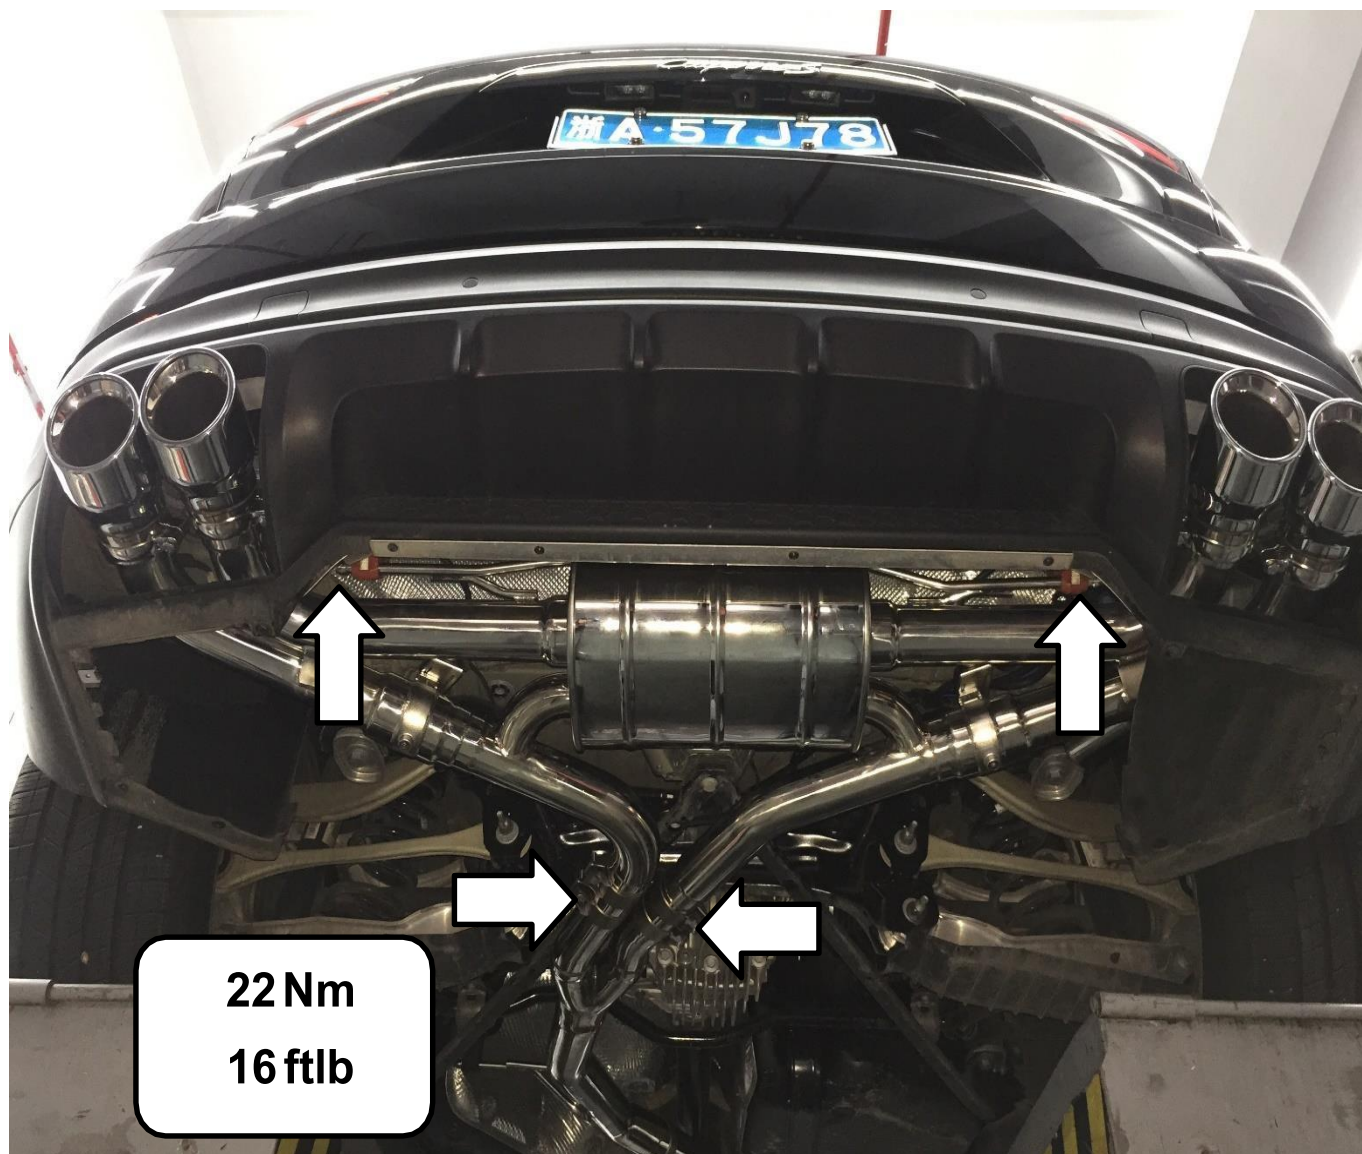

Fig. 13
3. Install the muffler and tips to the proper position. (Fig.13)